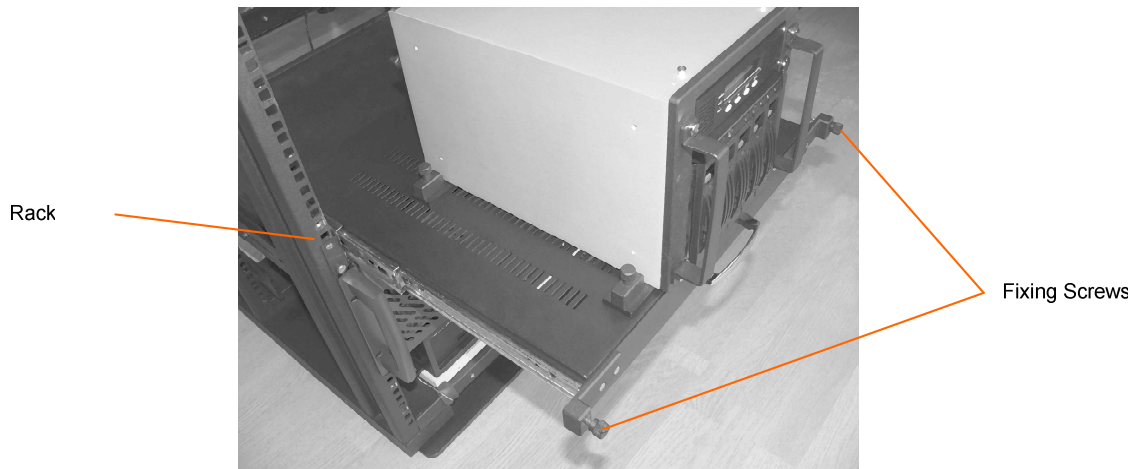

Figure 1.8: Fixing screws of the in-out table.
- Move in-out table with RAID-array up to the stop and fix it with two side fixing screws. (Figure 1.8)